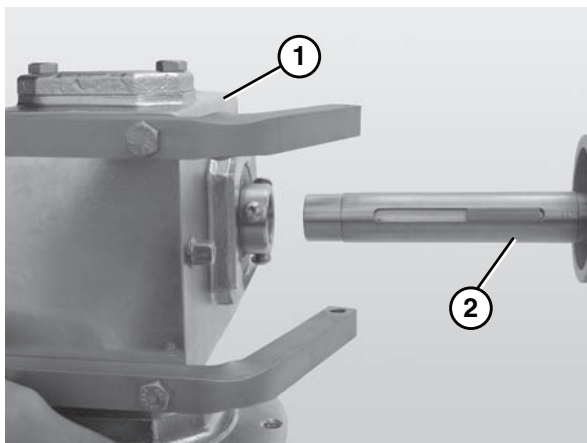

Figure 20
2. Slide the gear reducer (Figure 20, item 1) onto the drive spindle (Figure 20, item 2).